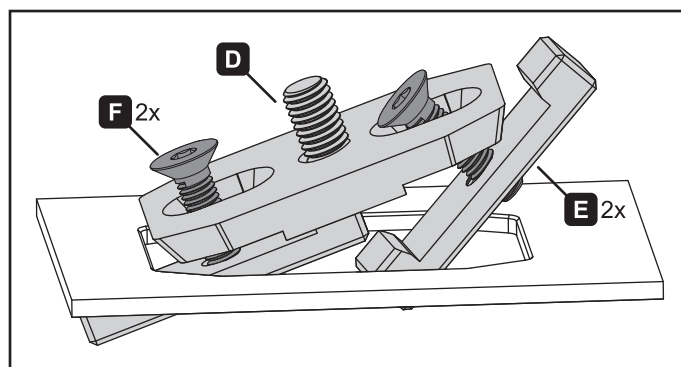

Figure 1.
1. Assemble parts E, F and D and insert into the desired location by holding onto the threaded stud and turning the nuts (E) as shown in figure 1.